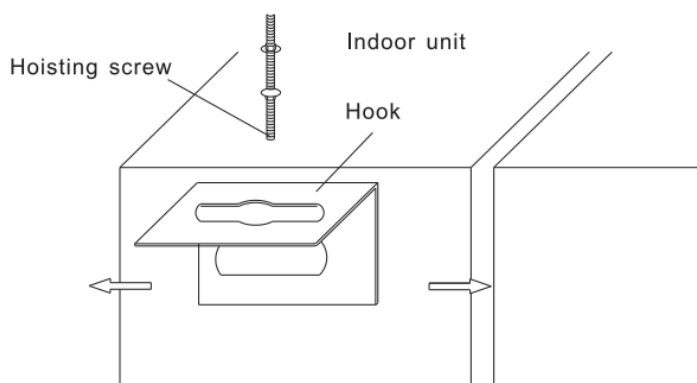

Fig 4
- Fix hooks in the indoor unit(refer to Fig 4)